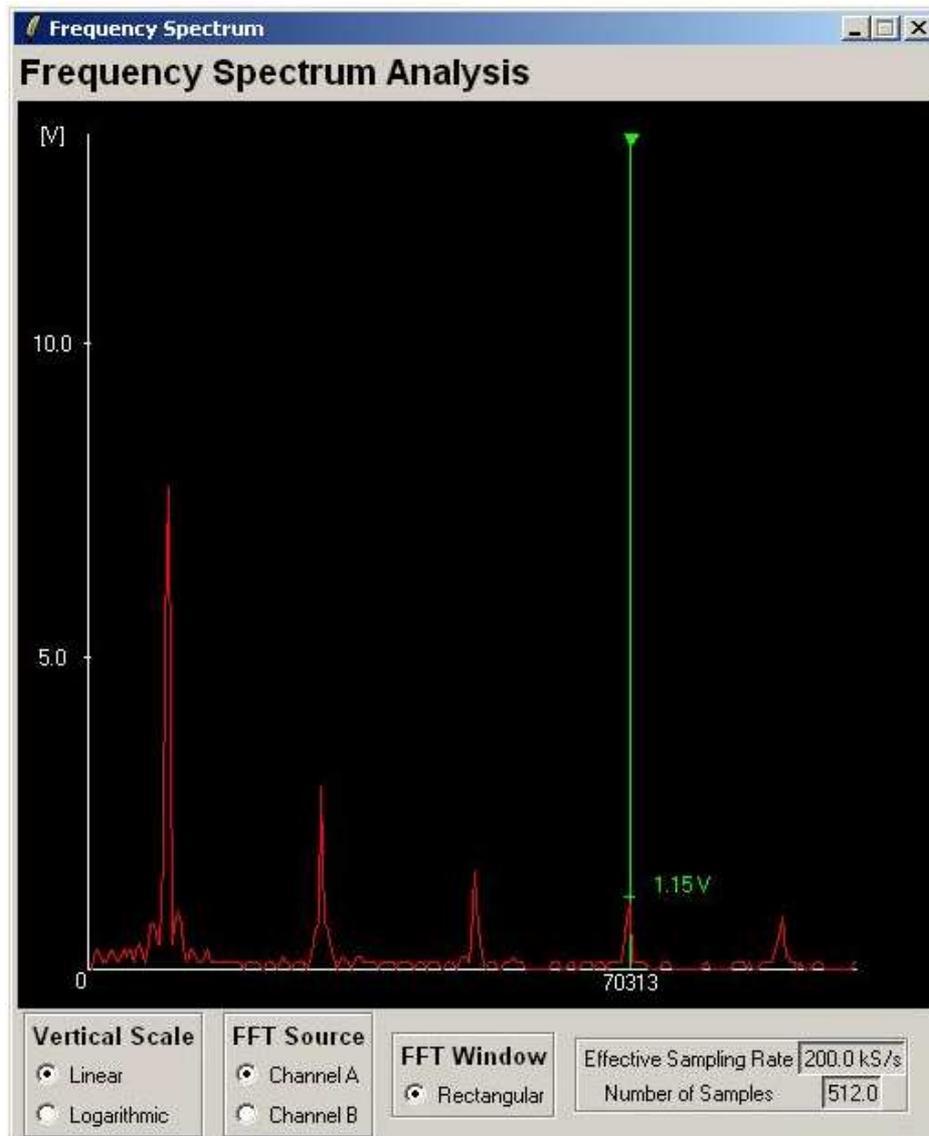

Figure 4: Square Wave Spectrum
Clicking on `Tools` -> `Spectrum Analysis` brings up the spectrum analysis display of figure 4. The displayed spectrum in this image is a 10kHz square wave of amplitude 8.8 volts peak.
- The Effective Sampling Rate is shown in a readout at the bottom right corner of the spectrum display. This is important: the sampling rate must be at least twice the frequencies being analysed to avoid aliasing. Put another way, there must not be frequency components above the Nyquist rate, which is half the sampling rate. In the example shown in figure 4, the sample rate is 200kHz. The frequency components range from 10kHz to 90kHz, below the Nyquist rate of 100kHz².
- As the readout cursor is dragged higher in frequency it jumps from bin to bin, reading out the centre frequency of each bin. A given frequency component may not be centred in its bin, so the frequency readout will be only approximate. For example, in figure 4, the square wave frequency (generated by a Syscomp WGM-101 waveform generator) is at a frequency 10kHz to within a fraction of a Hz. The 9th harmonic is at 90kHz. The spectrum display readout puts the 9th harmonic at 90234 Hz, which is only approximately correct.
Determine the frequency resolution (bin spacing) for the case of the display of figure 4.